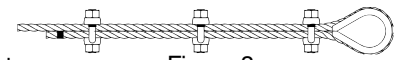

Figure 3
3. When three or more clips are required, space additional clips equally between first two – take up rope slack – use torque wrench to tighten nuts on each clip evenly, alternating from one nut to the other until reaching recommended torque (See Figure 3).